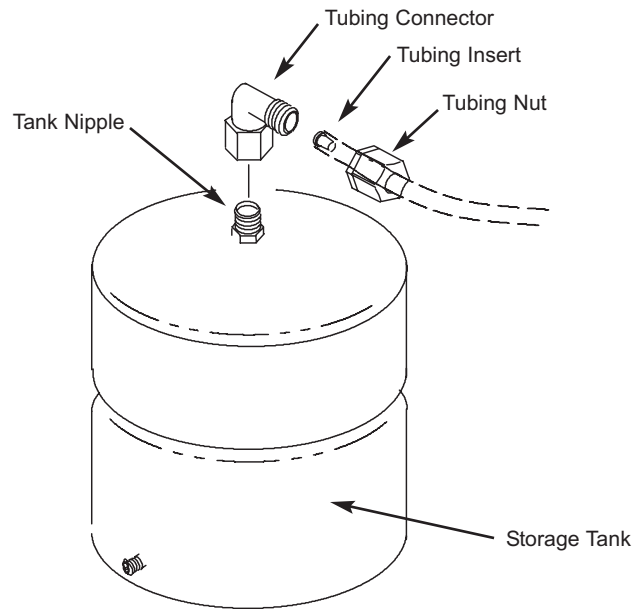

FIG. 12
1. Apply thread sealing tape to the threads on the nipple at the top of the tank. See Fig 12.
2. Locate the tubing connector. See Fig. 12. Tighten the tubing connector with a wrench onto the tank nipple 7-8 turns, being careful not to cross thread or overtighten.